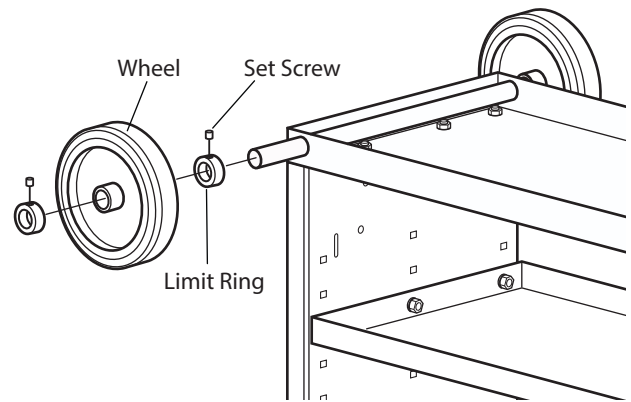

Figure 4-27
- Loosen the set screw (item #17) in the four Limit Rings (item #16) (see Figure 4-27). Slide a Limit Ring over each end of the Axle, followed by a Wheel (item #15) and the remaining Limit Ring. Snug the Limit Rings and Wheels to the Base. **Fully tighten the Limit Ring set screws to the Axle.**